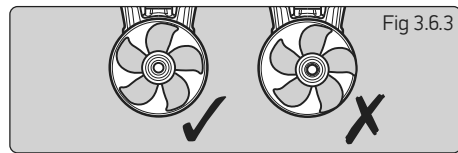

Fig 3.6.3
- Fig 3.6.3 - Check that propeller is centred and free turning (within 10 minutes of applying Blue Loctite® 243).